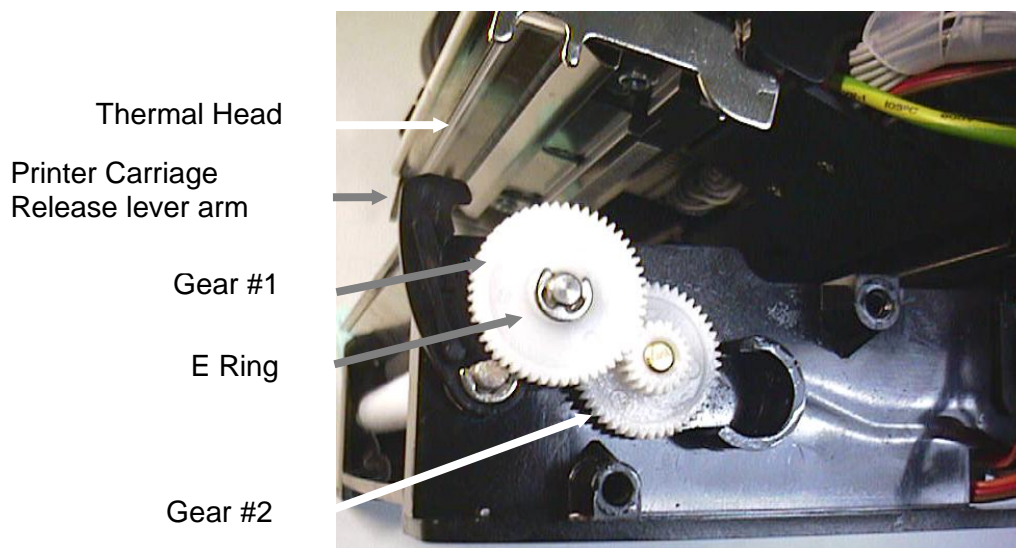

Fig. 4.15 Location of E ring and Gears
18. Remove the E ring and the printer carriage release lever arm. (Fig. 4.15)